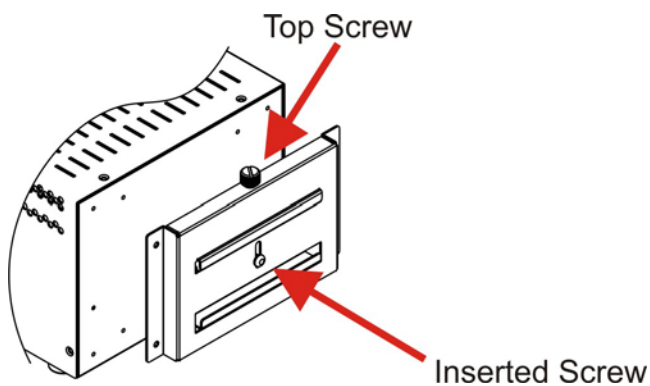

Figure 3-20: Screw Locations
Step 2: Make sure the inserted screw in the center of the bracket is at the lowest position of the elongated hole (**Figure 3-20**).